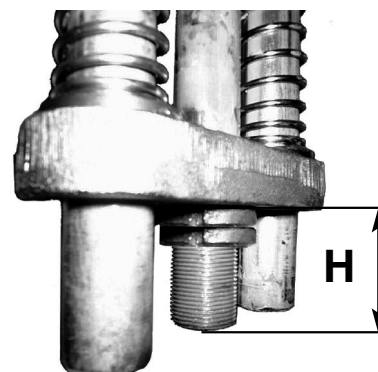

Fig.4
- To check the boom is balanced perfectly, release the gearmotor and move the boom by hand. The boom should slightly tend to rise (Fig. 4).